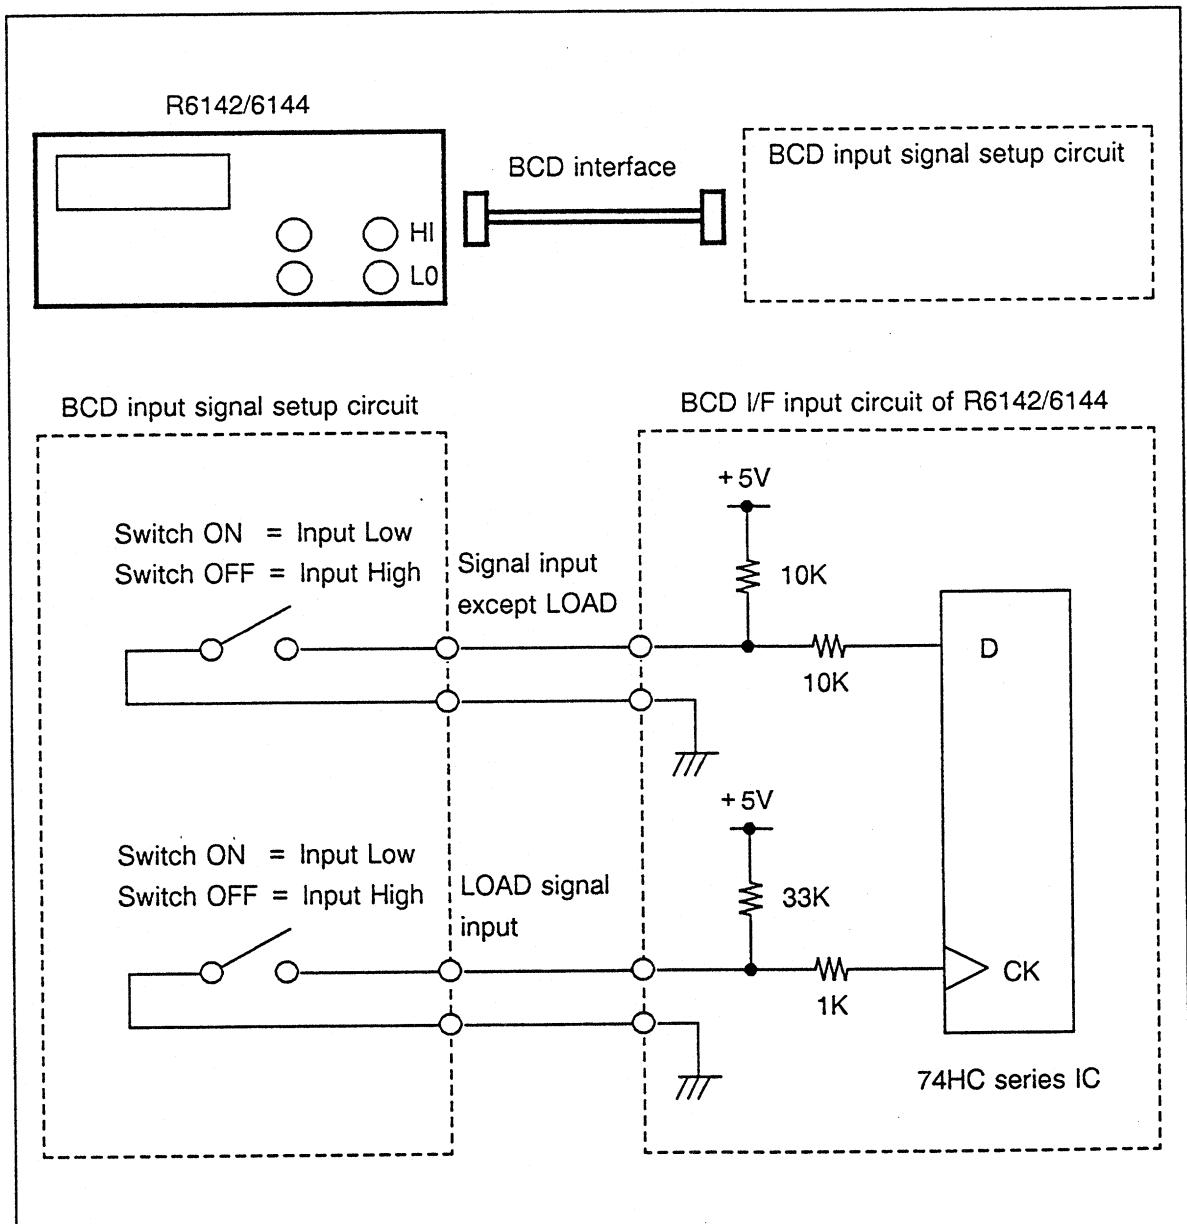

Figure 4-10 Cable Connection for BCD Interface Test
- ① Connect the R6142/6144 to the BCD input signal setup circuit as shown in Figure 4-10.
③ Change the setup of each BCD signal by following the instructions given in Figure 4-10 and Table 4-21, and make sure that the system operates normally.
④ Make sure that the R6142/6144 does not operate when the LOAD signal is set to logical high and the output signal level is changed.
⑤ If the R6142/6144 operates abnormally, go to Section 6.11 "Problems in BCD Interface".